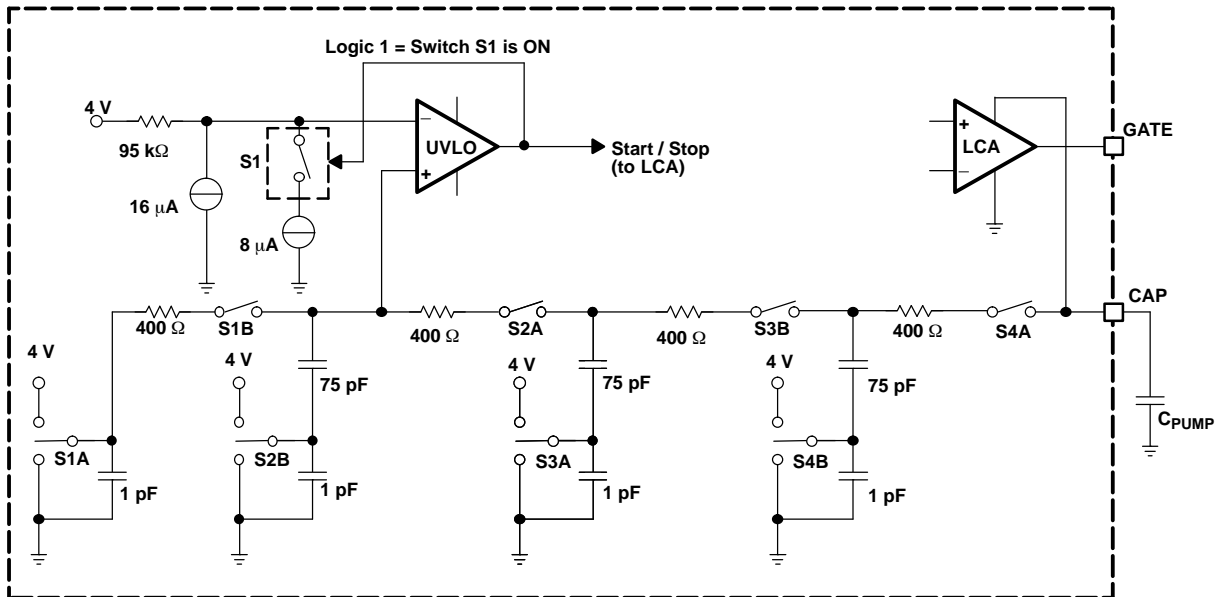
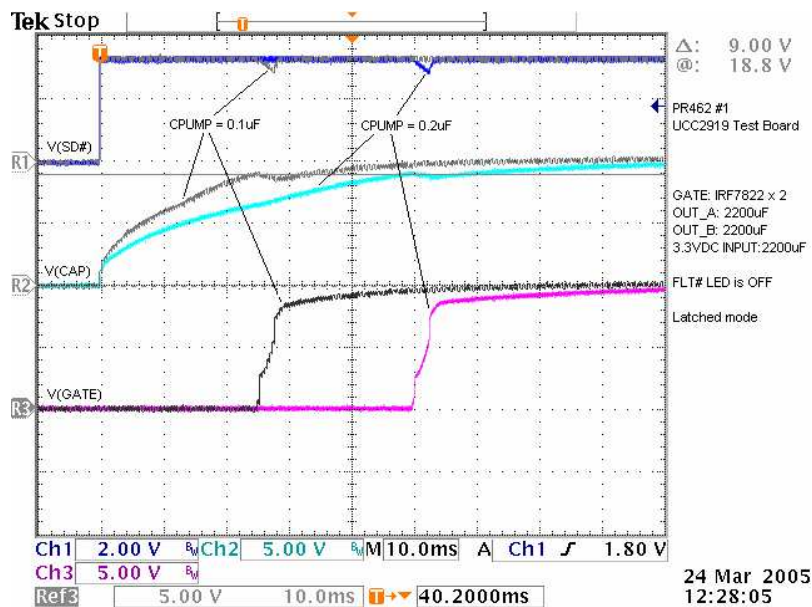

Figure 1. A Simplified UCC3919 Circuit Model
Figure 2. Typical UCC3919 Voltages at Turnon
Figure 1 is a simplified circuit model of the UCC3919 that shows only the LCA, charge pump, and charge-pump comparator. The turnon voltages are shown in Figure 2.
The UCC3919 charges capacitor  $C_{PUMP}$  when the  $\overline{SD}$  input de-asserts. The UVLO comparator enables the LCA when the capacitor voltage rises to  $V_{START}$ , the charge-pump UVLO minimum voltage to start. For the UCC3919 example in Figure 2,  $V_{START}$  is approximately 9 V. Figure 2 shows the UCC3919 turning on with different  $C_{PUMP}$  capacitors. Note that the hot-swap FET turnon delay is proportional to  $C_{PUMP}$ .
(1) Reprinted with permission from International Rectifier; Fig 2, page 3, International Rectifier IRF7822 datasheet.